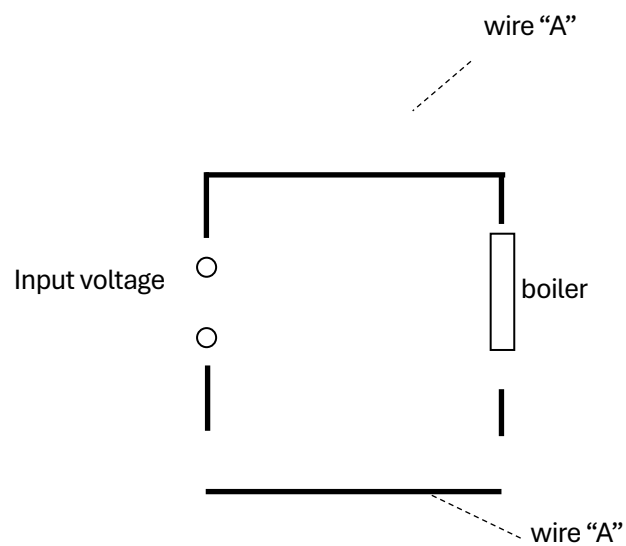

Fig. 7.3
- (e) A boiler, with resistance of $6.0\text{ k}\Omega$ and rated at 5.4 MW is to be connected to two wire “A”s of length 1.00 m each as shown in Fig. 7.3 below.